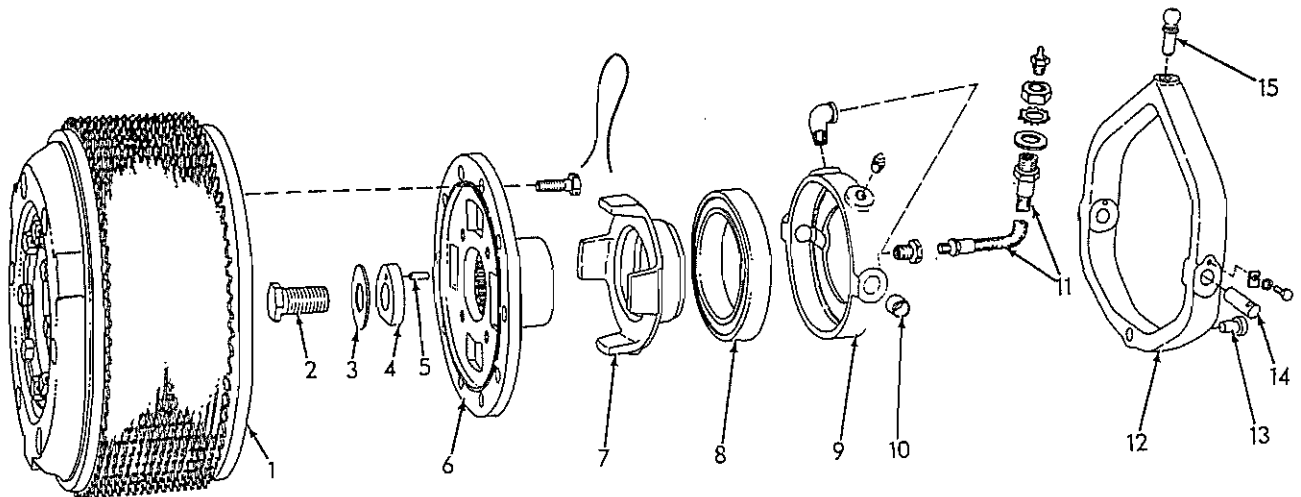
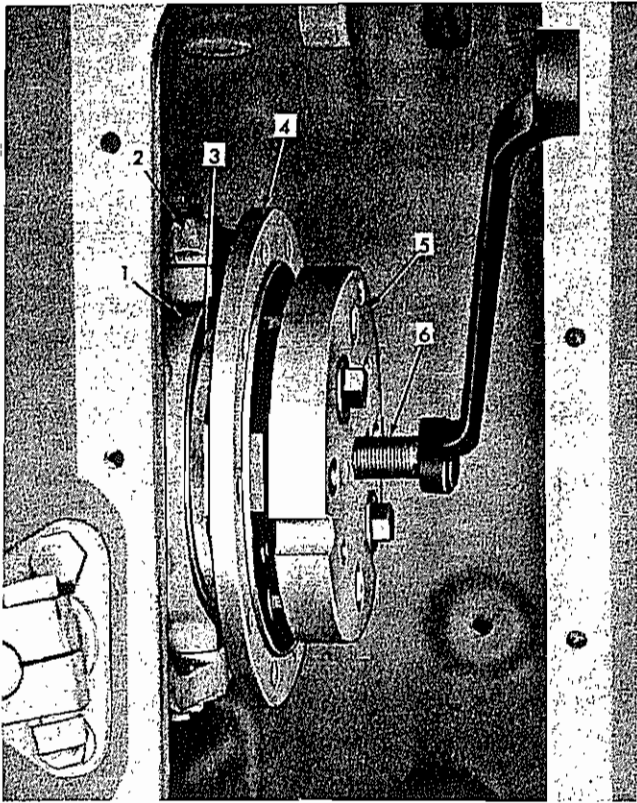

Fig. 17 -- Clutch Throwout Parts (HD11 Shown, HD6 Similar)
Fig. 18 -- Pulling Steering Clutch Driving Hub (HD6 Shown, HD11 Similar) (T-17878)
2. Refer to Fig. 17 and disconnect upper end of throwout bearing lubricating hose. Loosen driving hub retaining capscrew and turn it out approximately 1/4". Use tools similar to those shown in Fig. 18 and pull hub from bevel gear shaft. Remove tools, hub retaining capscrew, capscrew lock and hub retaining washer.
4. Remove driving hub from sleeve, lubricating hose and yoke from bearing cage. (refer to Fig. 17).
2. Assemble lubricating hose and yoke to cage assembly (refer to Fig. 17); be certain yoke trunnion pins are locked securely in position.
4. Lubricate inside diameter of throwout sleeve with graphite base lubricant and position steering clutch driving hub in sleeve (refer to Fig. 17).